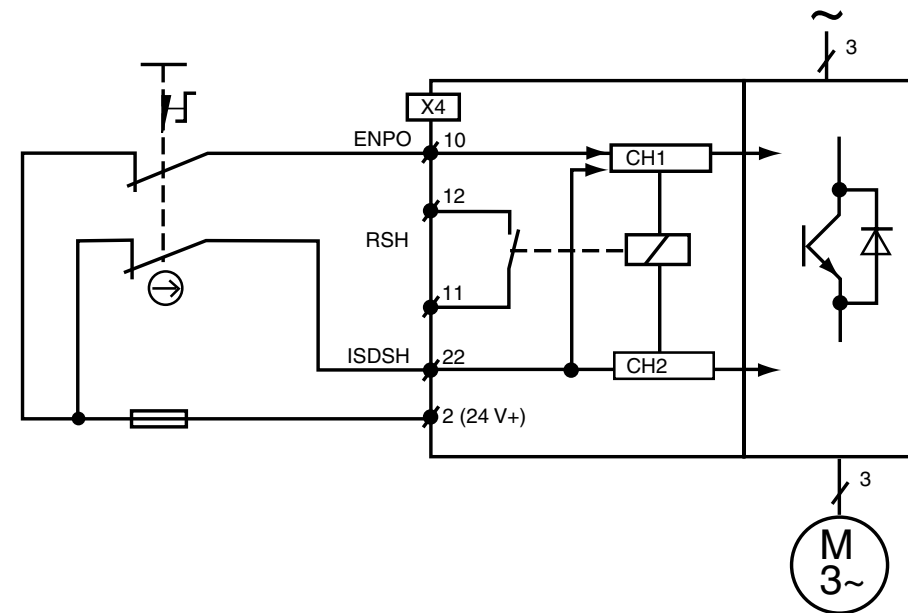

Figure 6.1 "STO" selection of function via switch with two NC contacts (positively operated)
- There is no protection against unexpected restarting after re-establishing the electrical power supply in the illustrated example circuit, unless an external circuit is used (figure 6.1). If ENPO and ISDSH are High when reconnecting the power supply (see table 6.2), the axle may start up if autostart is programmed. The connected safety circuit on the machine must ensure that the ServoOne junior (the SRP/CS) can attain and maintain the safe state of the machine.